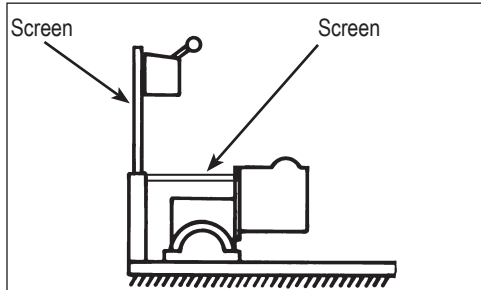

FIG. 6
- Make certain protective screens are in place before operating (Figure 6).